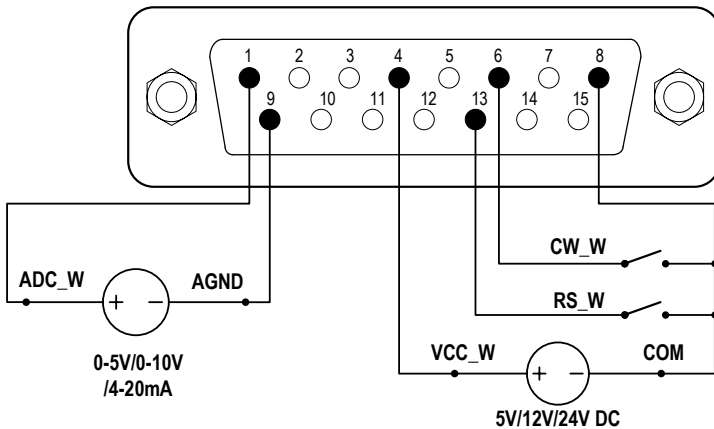
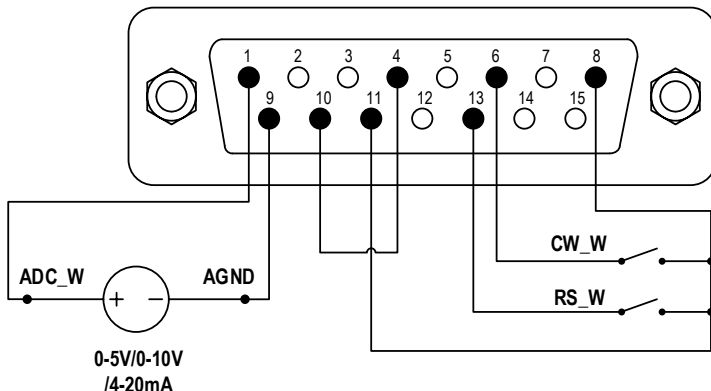

Figure 9. DB15 Wiring with an External Power Source
Figure 10. DB15 Wiring with the Internal 12VDC Power Source
- 1) Turn off the power. Wire the DB15 connector as shown in Figure 9 or Figure 10. Connect it to the DB15 port on the rear of the pump.